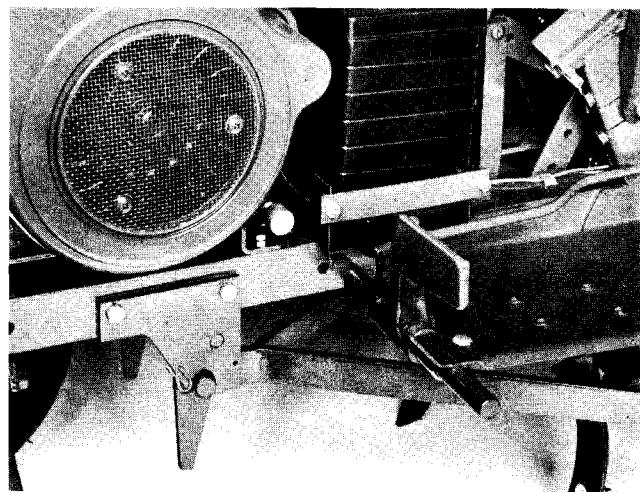

FIGURE 1
1. Slide front frame ass'y. Part No. 5579 under tractor with lift bar pivot arm down. Lift the cross shaft into slots in speed hitch and close latch. Secure latch in closed position with hairpin cotter through hole in L.H. plate as shown in Fig. 1.